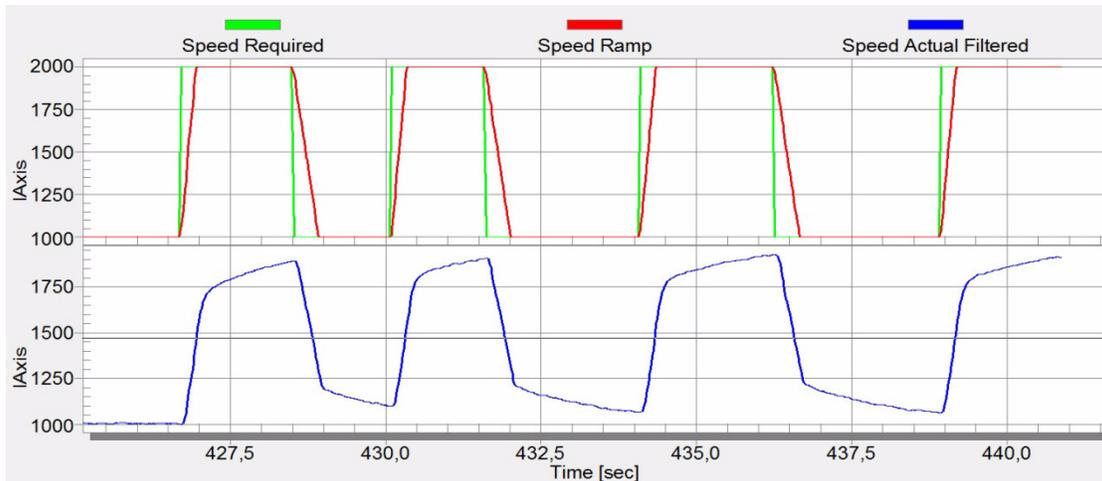

Figure 12. Speed Controller Response— SL_Ki value is low, *Speed Ramp* not achieved
6. Tune the loop bandwidth and attenuation until the required response is received. Example waveforms are shown in Figure 12 with the correct and incorrect settings of the current loop parameters:
- SL_{Ki} value is low, and *Speed Actual Filtered* does not achieve *Speed Ramp*, see Figure 12.